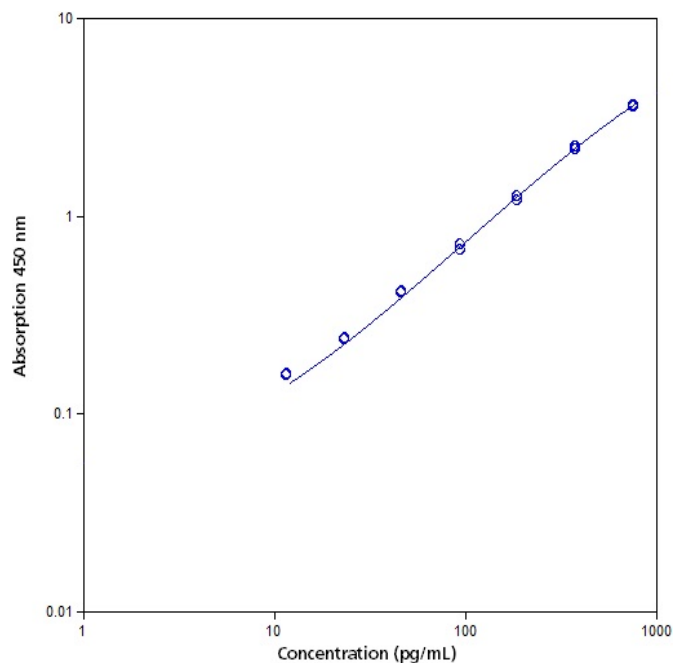

Fig. 8 Representative standard curve for human Gas6 ELISA. Human Gas6 was diluted in serial 2-fold steps in Sample Diluent.
- A representative standard curve is shown in Figure 8.